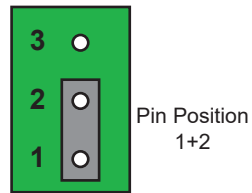

Figure 4.2 J3 — Default Position
- **Pin 1 (bottom) + Pin 2 (center)** — This is the default position. The reference is terminated with a 75ohm resistor. This configuration is to be used for point-to-point cabling, or on the last card of a daisy chain topology. Refer to **Figure 4.2** for pin positions.